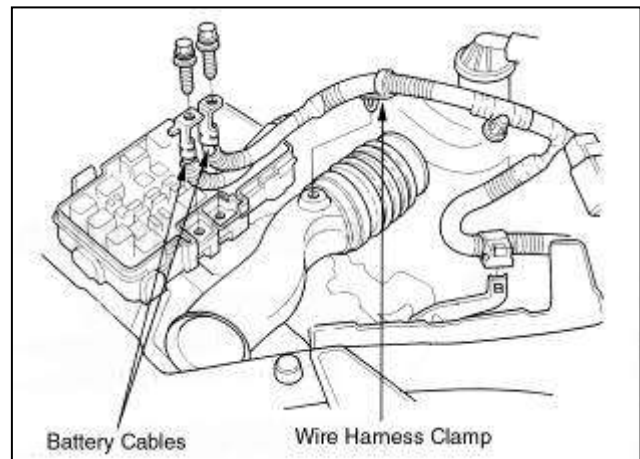

Fig. 2
- Remove the battery cables from the fuse box and remove the wire harness clamp from the intake air duct. **(Fig. 2)**